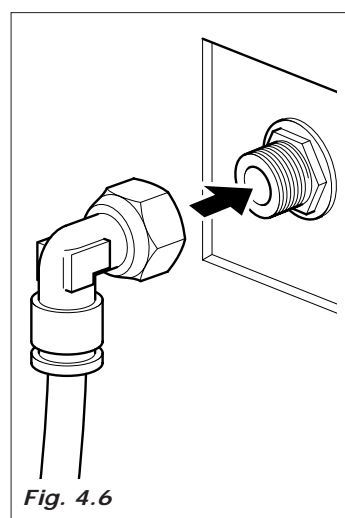

Fig. 4.6
- the foreseen connection is a 3/ 8 gas (Fig.4.6).